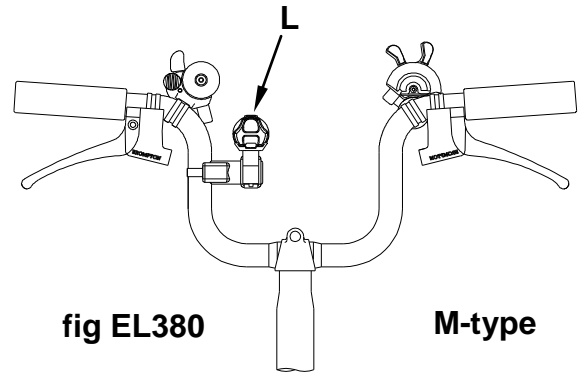

fig EL380
**M-type (fig EL380)**, fit to outer end of the extension bar (or, if a lower position is OK, direct to the handlebar, offset ~15mm to the left of the centre-mounting-lug).